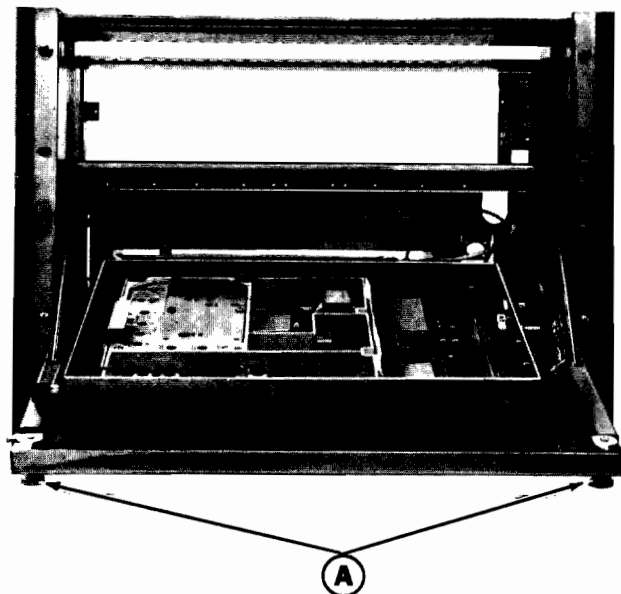

Figure 5 - Access to Exciter
1. Turn the two latching knobs (A) counterclockwise to unlatch the Radio Panel Front Door. Refer to Figure 5.